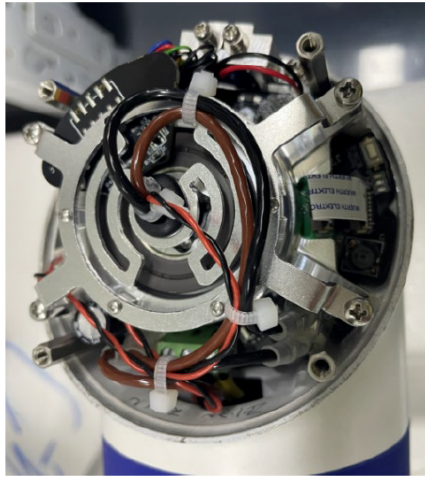

Figure 3-6 : The joint with properly tied wires
5. Connect the wires and tie them well as shown in **Figure 3-6** .